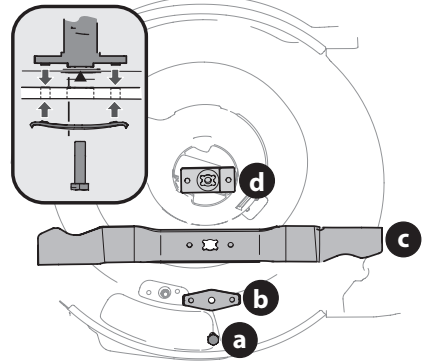

Figure 16
- Remove bolt (a) and blade bell support (b) which hold the blade and the blade adapter to the engine crankshaft (Figure 16).
- Remove blade (c) and blade adapter (d) from the crankshaft (Figure 16).
- Lubricate the engine crankshaft and the inner surface of the blade adapter with light oil (Figure 16 inset).